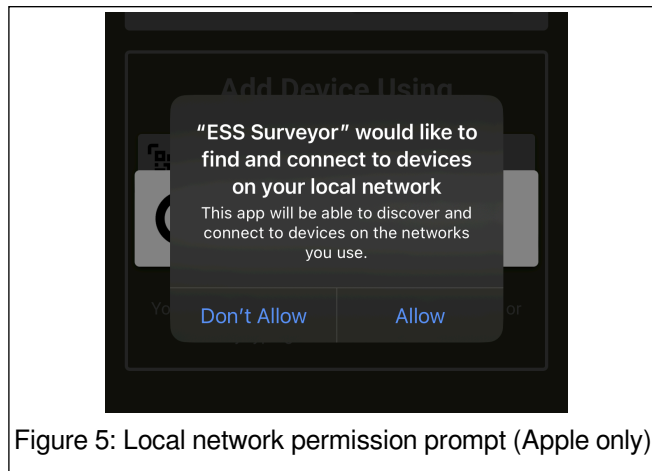

Figure 5: Local network permission prompt (Apple only).
- 7. The first time you successfully connect your Apple device to a GPS RTK 2W or GeoRanger Utility Scanner, you will see a prompt similar to Figure 5: